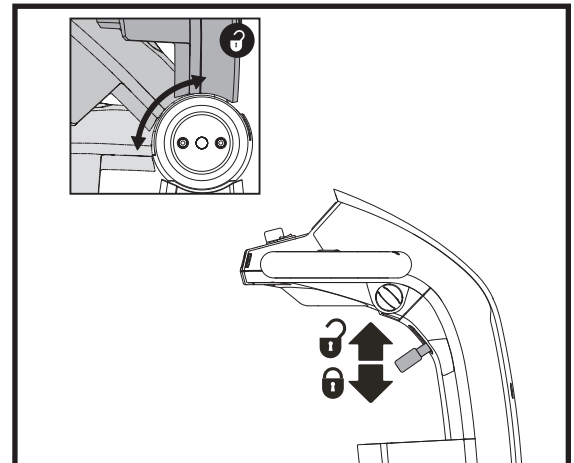

Figure 13. Tiller Adjustment Knob
1. Lift the tiller adjustment lever. See figure 13.